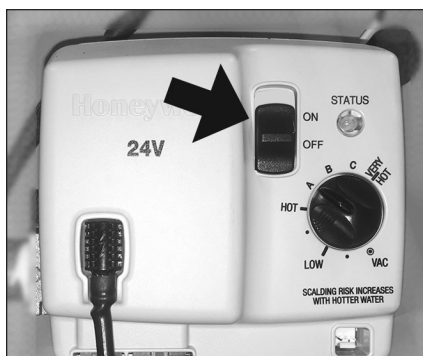

Figure 44 - Turn the gas control valve off.
- 1 Move the ON/OFF switch on the gas control valve/thermostat to the “OFF” position to turn off the water heater (Figure 44).